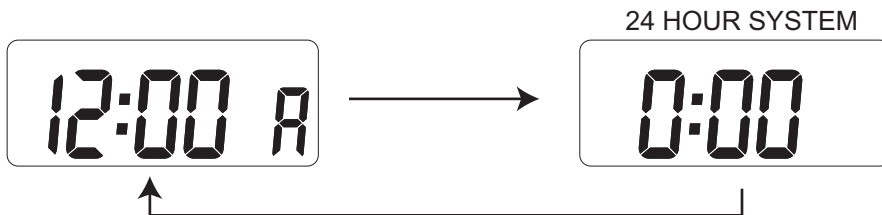

Fig. 7
4. When the ALARM time is displayed by holding B. Depressing C will toggle the 12 hour system to 24 hour system, or vice versa, as shown in Fig. 7.